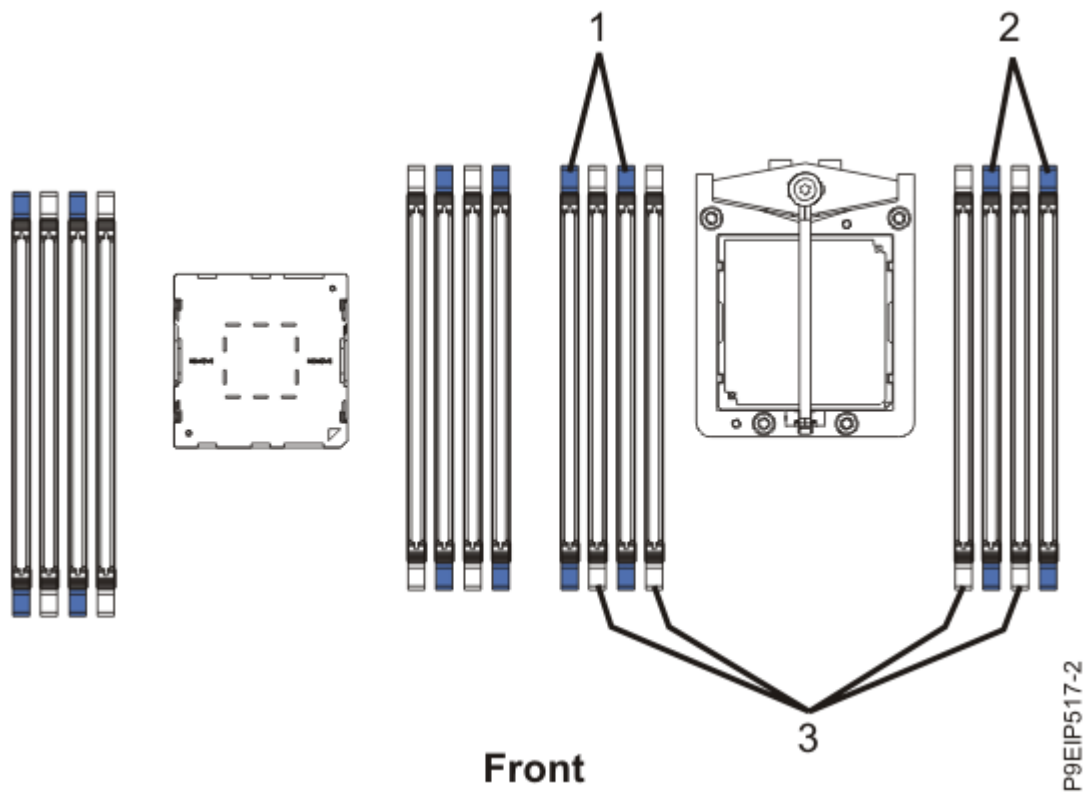

Figure 14. Single-processor plugging sequence
- For a single-processor system, use Table 3 on page 20 and Figure 14 on page 21.